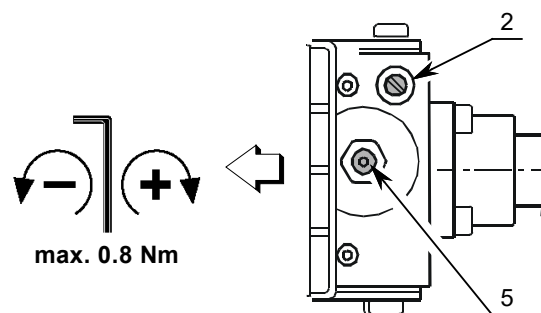

Fig. 7
- undo screw 2)(Fig. 7) and connect a pressure gauge